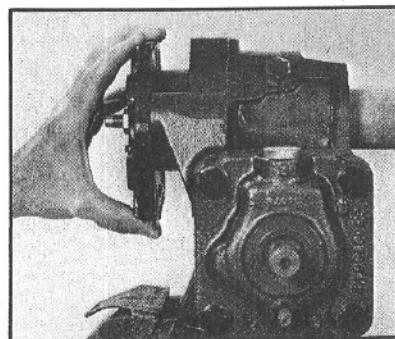

Figure 41
8. Begin to remove the side cover (58) and sector shaft (50) as an assembly (FIG. 41). Stop removal when the bearing rolls in the housing bearing (21) are half exposed. Coat the bearing rolls with grease. As a means of starting the removal of the side cover and sector shaft assembly, you may use a soft hammer or wooden handle.